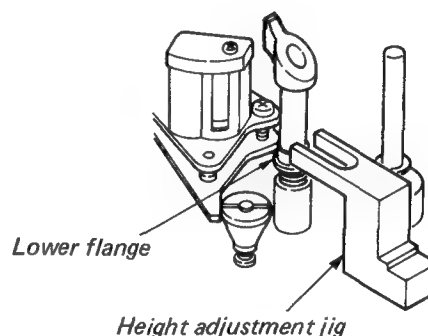

Fig. 1-3-21 No. 8 guide preset
- 2) After completion of the replacement, preset height of the lower flange as shown in Fig. 1-3-21 using the guide height gauge.